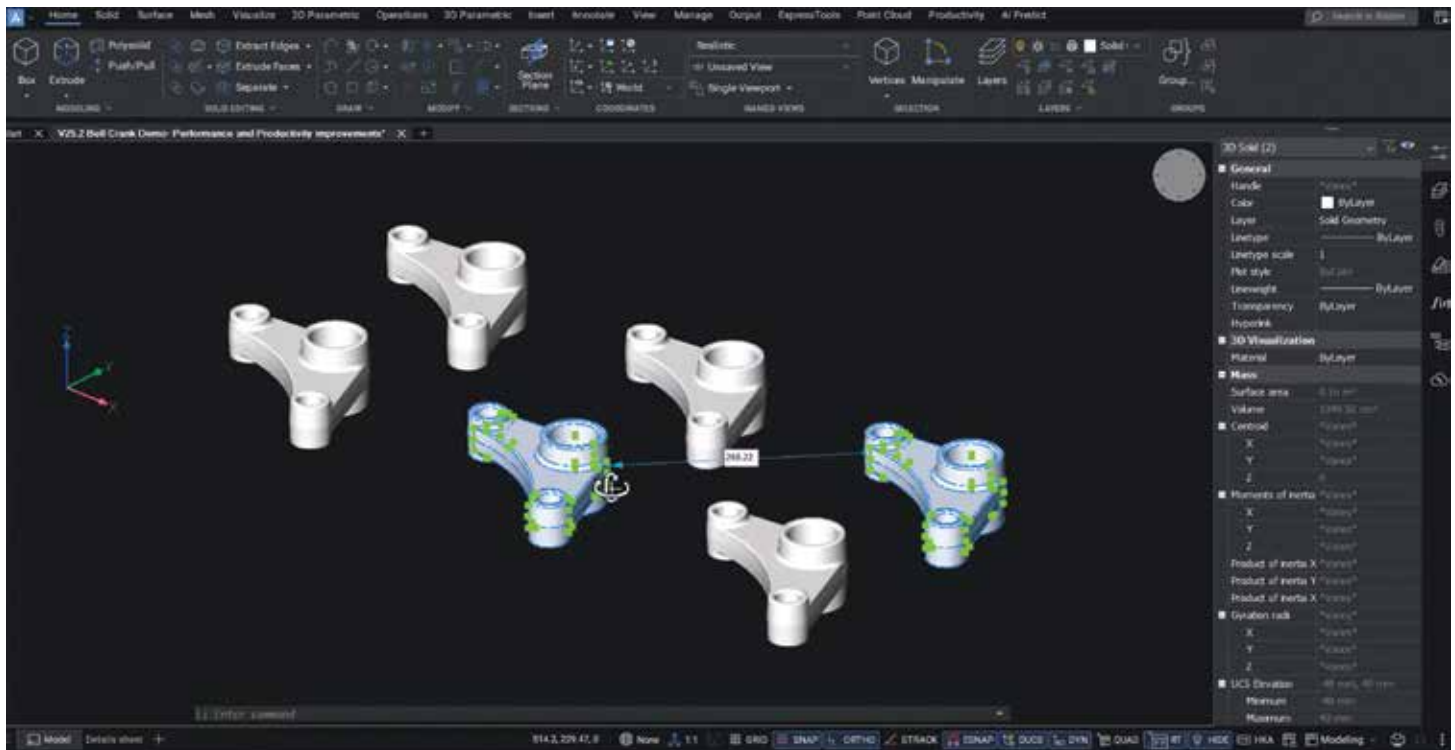

Figure 4
- Isolate selected entities during a 3DORBIT, with hidden entities displayed when exiting the orbit command. (See Fig.4)